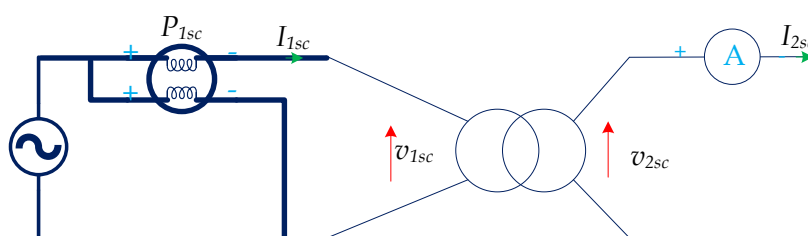

Fig. 9 Short-circuit test
1. Set the circuit as it is shown in Fig. 9.